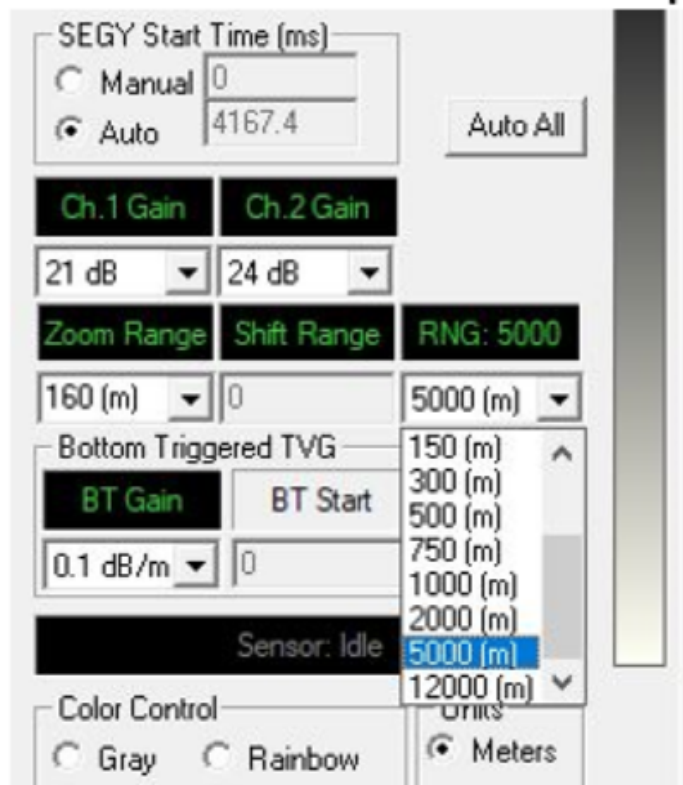

Figure 4 : Depth Range
- On the main sonar screen, select the depth RANGE from the drop down menu for the water depth range you anticipate the ship is in (Figure 4). This will set the ping rate and the range of the full depth window.
- a. Change the depth range as shown above in Figure 4. It could be that the sonar is set to the wrong depth range.
- The red box graphic on the full depth display on the right (Figure 4) represents the length of time the SEG Y file will record. If the SEG Y Start Time is set to "Auto" then the graphic will adjust automatically with the seafloor depth when the application is displaying a seafloor depth.